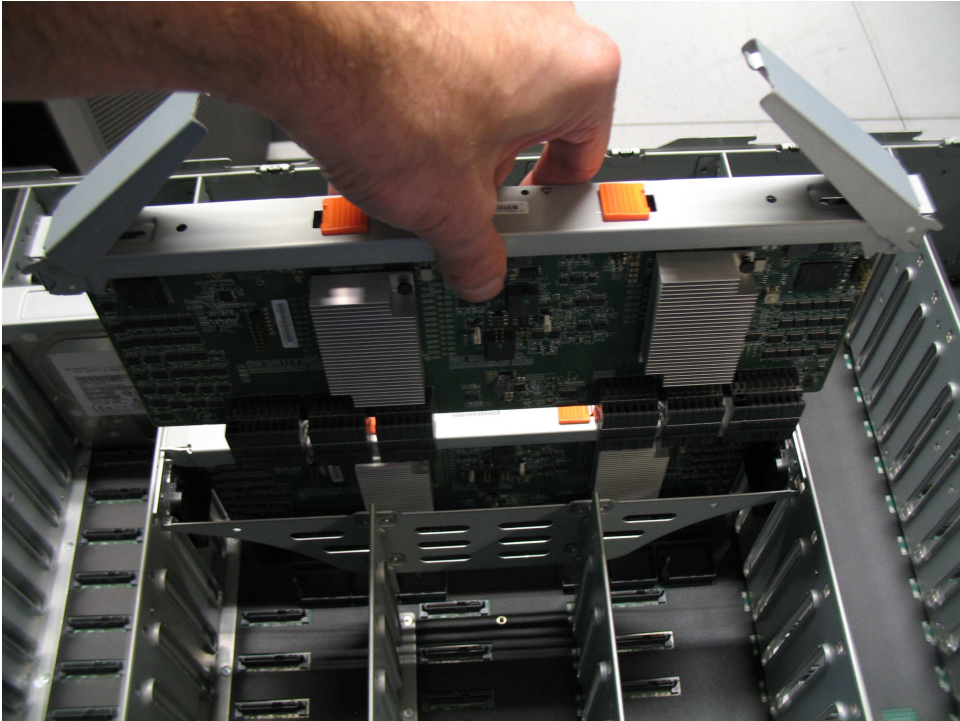

Figure 60. Replace the secondary expander module
- 4. Carefully align the edges of the secondary expander module in the guide slot in the enclosure, as shown in Figure 60 on page 77.